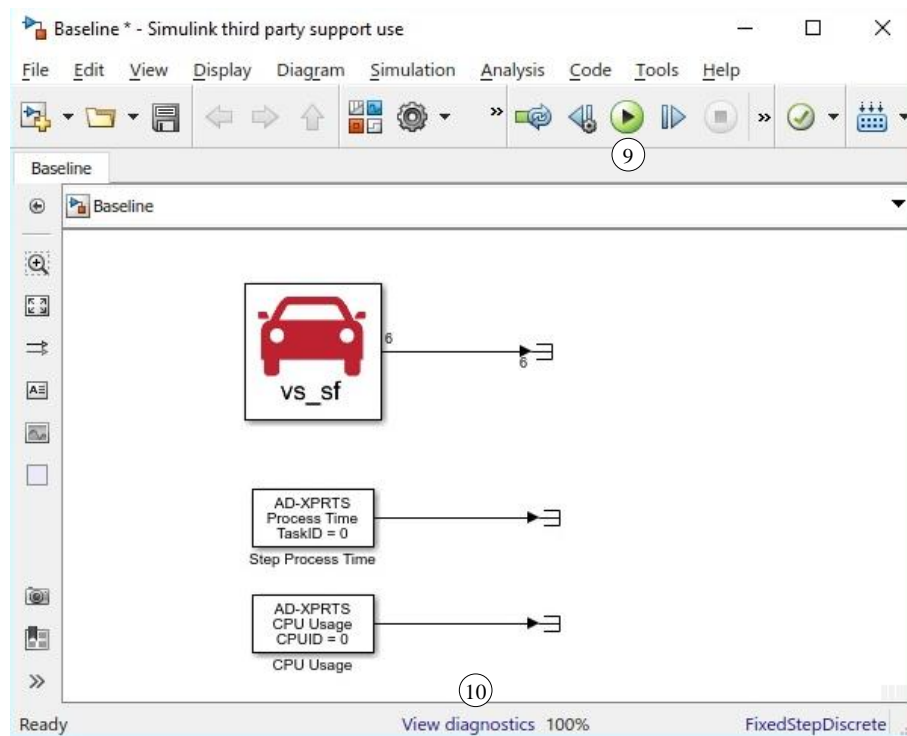
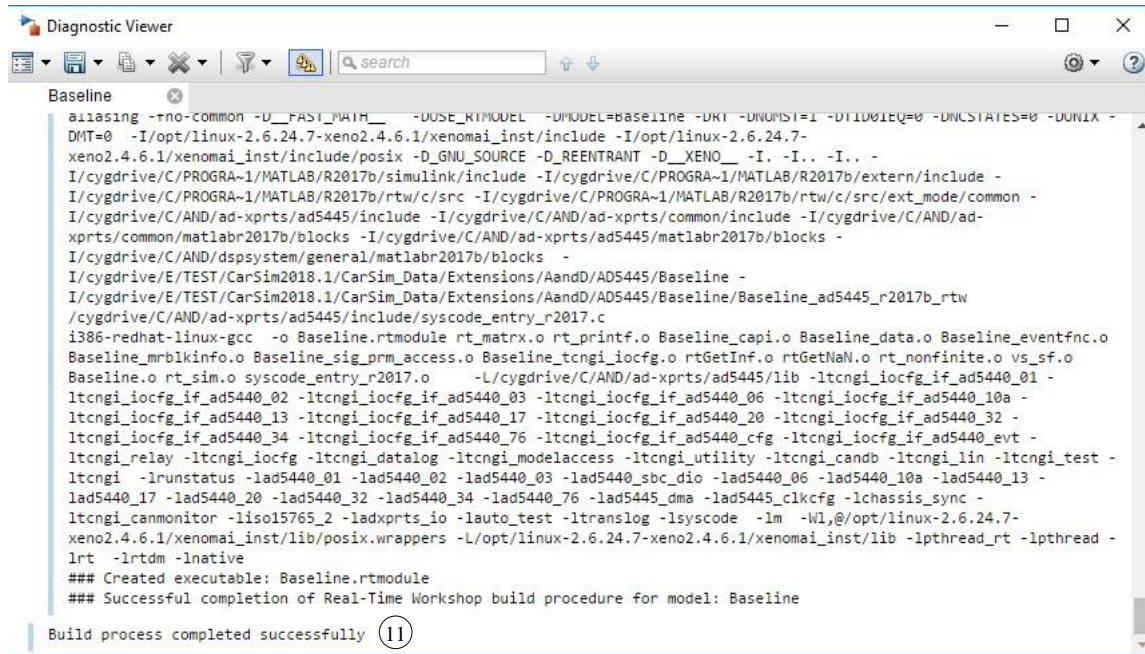

Figure 8. Simulink window
Figure 11. Simulink Diagnostic Viewer.
Click **Back** to return to the CarSim **Run Control** Screen (7.). Click the **Open** (5) button to open the Simulink model (Figure 8).
11. Click the green arrow in the toolbar of the Simulink window (9) to run the model (Figure 8).
12. Click on **View Diagnostics** (10) to check for errors.
13. Press **Control-B** to build the model. When the build is completed, you should see “Build process completed successfully” at the bottom of the Diagnostic Viewer (11) (Figure 11).